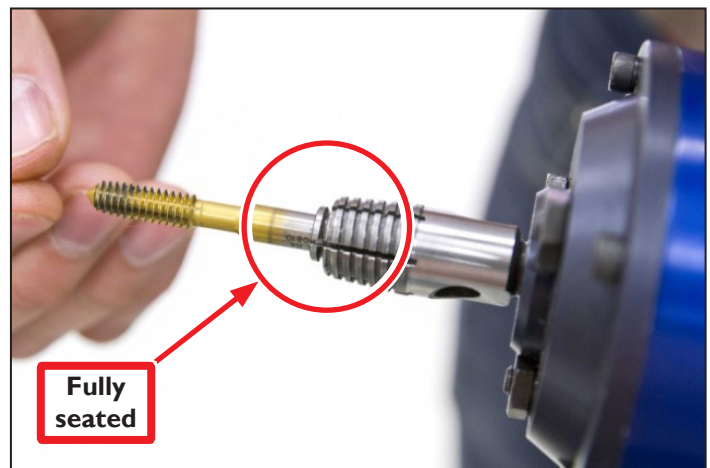

Figure 5
7. Slowly twist Collet until flats align with the flats on the inside of Tapered Receiver; at this point, Collet is fully seated in Tapered Receiver (see **Figure 5**).